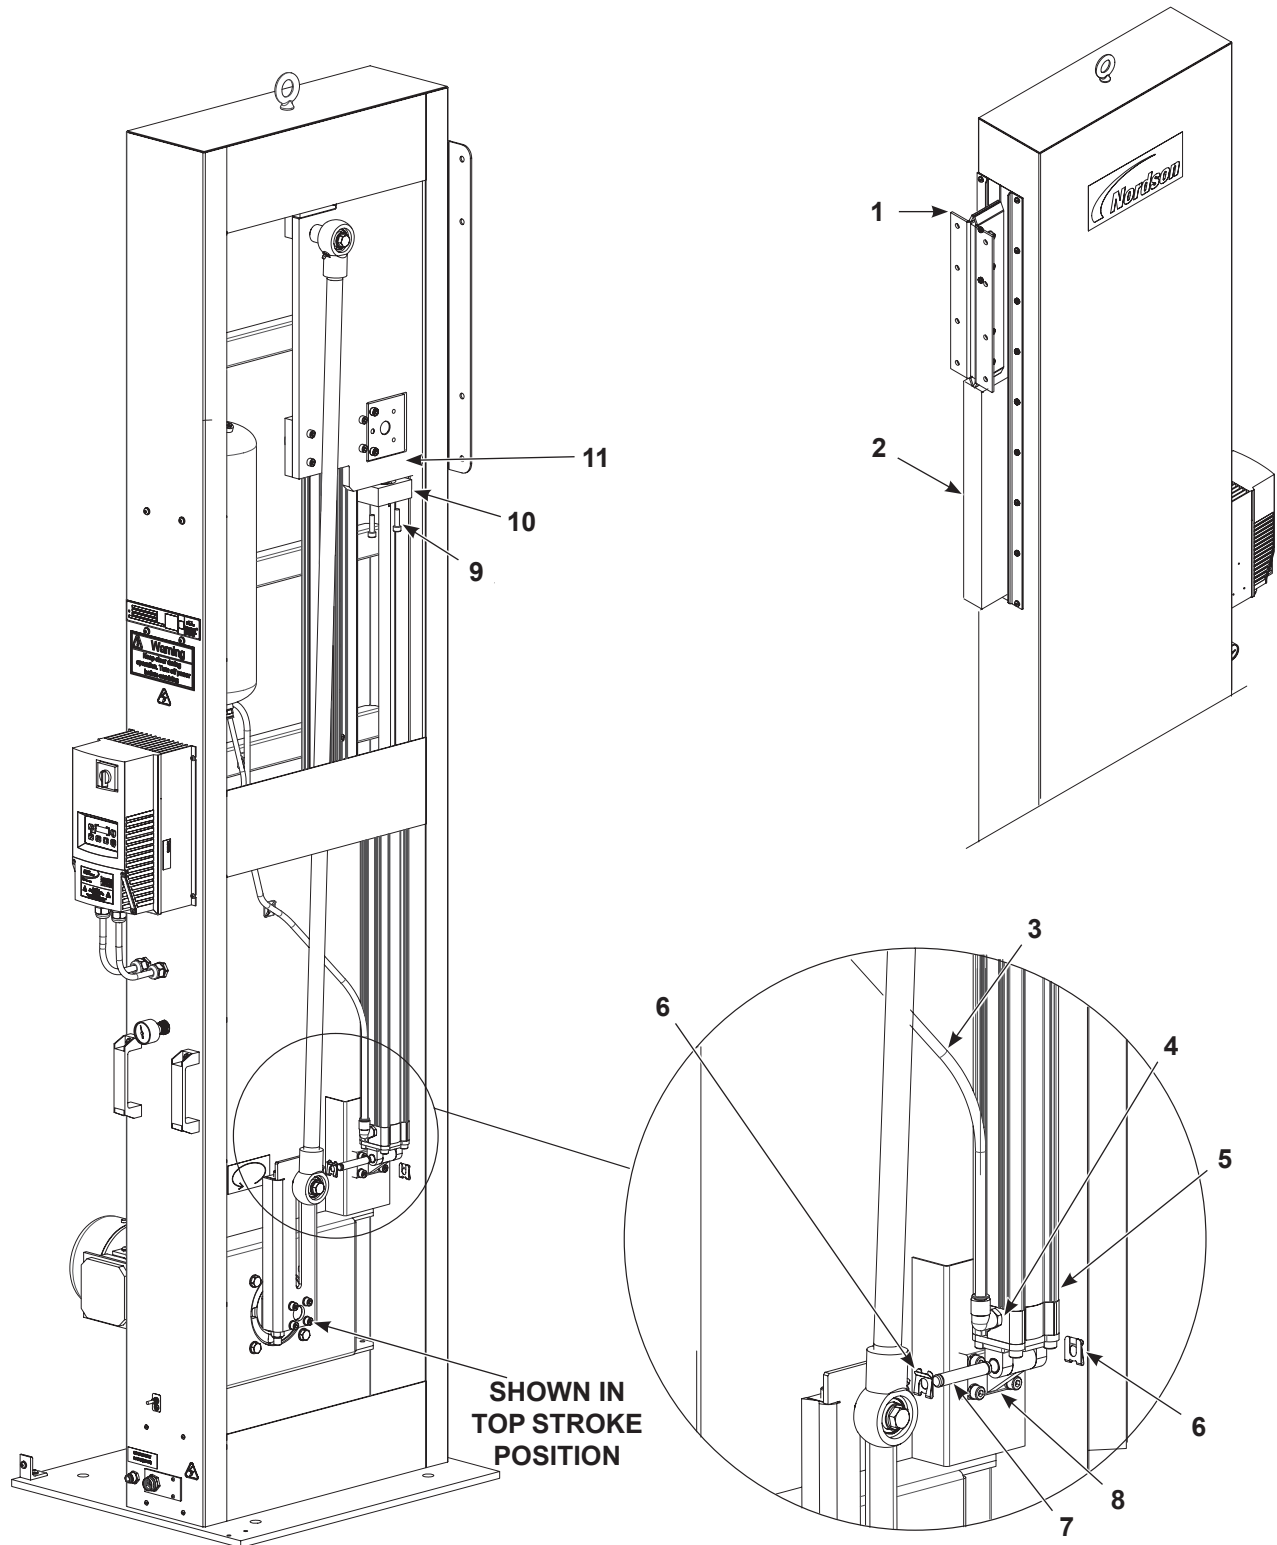

Figure 18 Installing the Air Cylinder
1. See Figure 18. Move the gun mounting plate assembly (1) to the top stroke position. Use a block (2) as shown to secure the gun mounting plate assembly (1).
2. Install the upper part of the air cylinder (5) securing the rod end mount (10) to the gun mount plate (11) using two rod end mount screws (9).
3. Secure the lower part of the air cylinder by using the pin (7) and clips (6).
4. Connect the airline (3) to the air cylinder fitting (4).
- a. Remove the air cylinder fitting (see Figure 18), breather vent (15), washer (14), Rod end mount (13), and lock nut (12) from the old air cylinder.
3. Install the new air cylinder (5) according to the *Install the Air Cylinder* section on page 36.